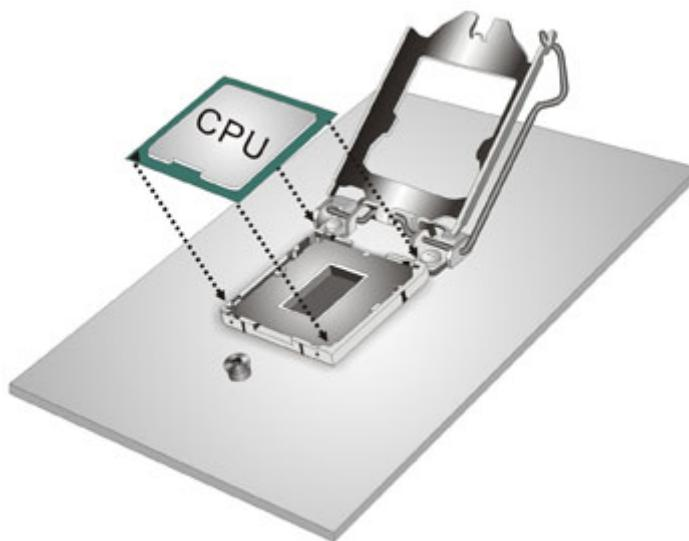

Figure 3-9: Insert the Socket LGA1151 CPU
Step 8: Insert the CPU. Gently insert the CPU into the socket. If the CPU pins are properly aligned, the CPU should slide into the CPU socket smoothly. See **Figure 3-9.**